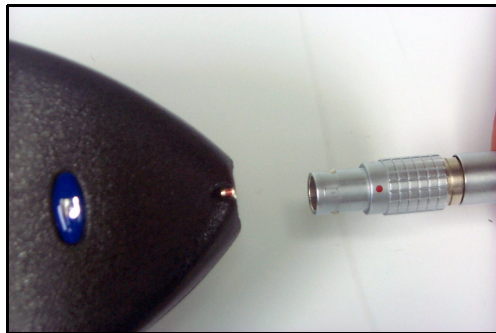

FIGURE 5-14 EXA010 extension cable approaching System 824
Step 2 Connect the male end of the EXA010 extension cable to the nose cone of the 824 by matching the red dots on mating connectors (FIGURE 5-14).